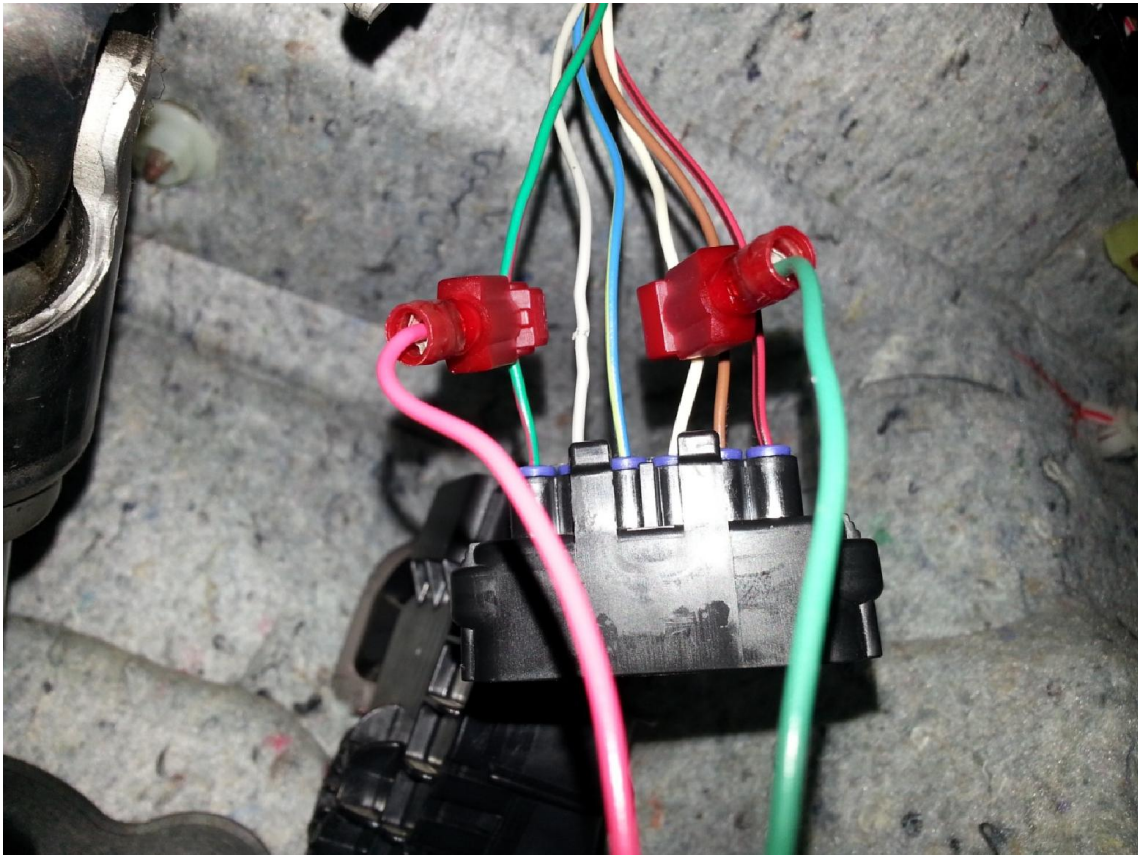

Figure 2 (Accelerator Pedal Position Sensor wire tabs placement)
2. Connect AUTO-BLiP red wire and green wire, one each to the vehicle's green/red wire and white wire at APPS (**Figure 2**).